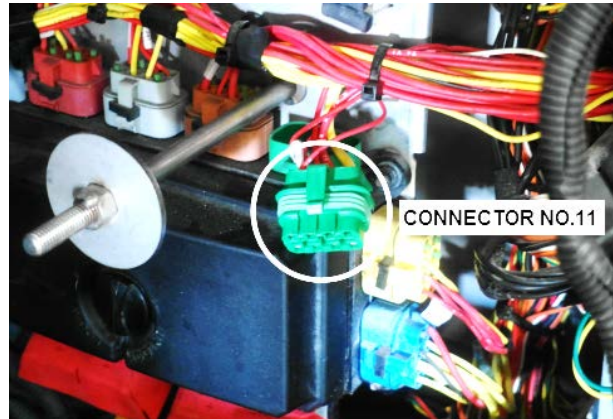

Figure 2
- 1.3 Using an extractor tool or a small flat blade screwdriver, remove wire 24VDALT from cavity H of connector no.11 (Figure 2 to Figure 8).